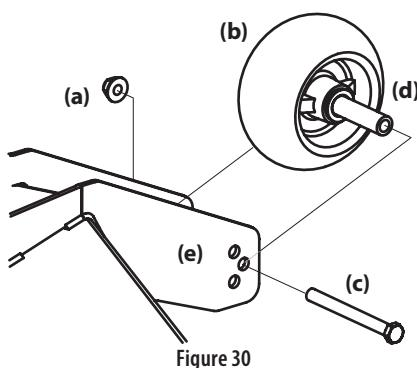

Figure 30
2. Remove the lock nut (a) securing one of the front gauge wheel (b) to the deck. Remove the front gauge wheel (b), hex screw (c) and spacer (d) (Figure 30).